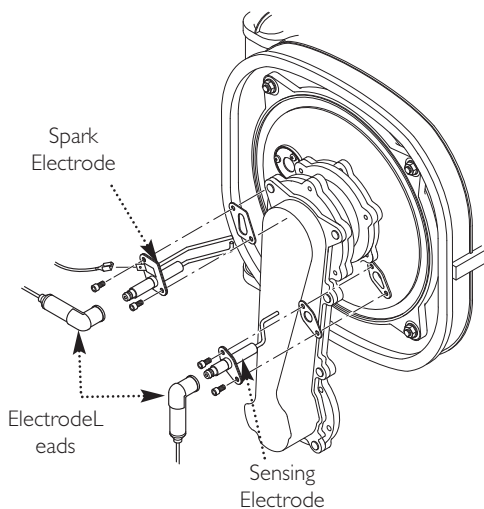

Fig. 47
13.2 Spark and Sensing Electrodes (Fig. 47)